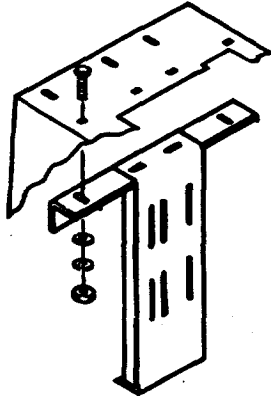

Figure 6 - Install Upper Motor Bracket
- Install upper motor bracket under flange of vertical motor bracket (Figure 6) and attach it using two carriage bolts, $\frac{13}{32}$ " flat washers, $\frac{5}{16}$ " lockwashers and $\frac{5}{16}$ "-18 hex nuts.
- Attach top panel to upper motor bracket (Figure 6) using two carriage bolts, $\frac{13}{32}$ " flat washers, $\frac{5}{16}$ " lockwashers and $\frac{5}{16}$ "-18 hex nuts.